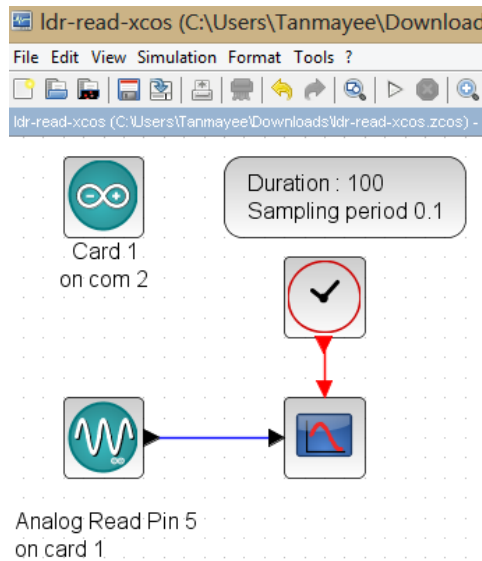

Figure 6.5: Xcos diagram to read LDR values. This is what one sees when `Origin/user-code/ldr/scilab/ldr-read.zcos`, see Footnote 2 on page 2, is invoked.
1. First we will read the LDR values and display it. When the file required for this experiment is invoked, one gets the GUI as in Fig. 6.5. In the caption of this figure, one can see where to locate the file.